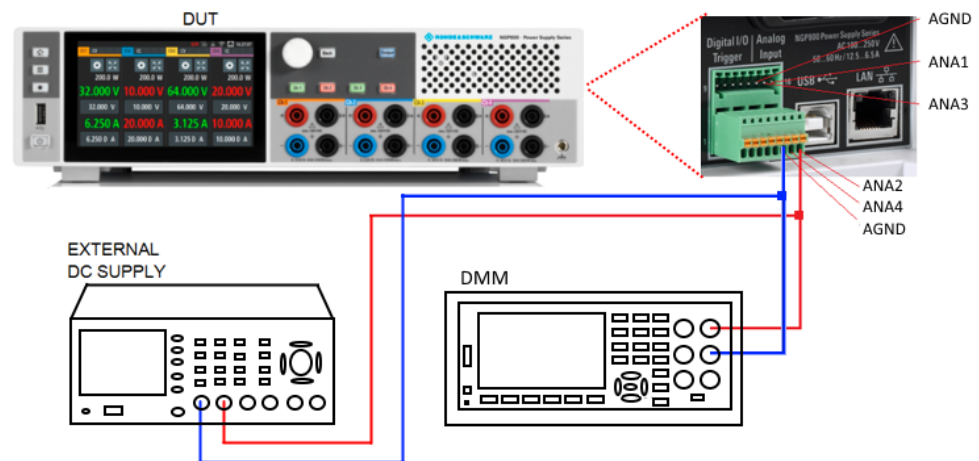

Figure 6-36: Analog input adjustment setup
4. Setup the adjustment with instruments illustrated in Figure 6-36.